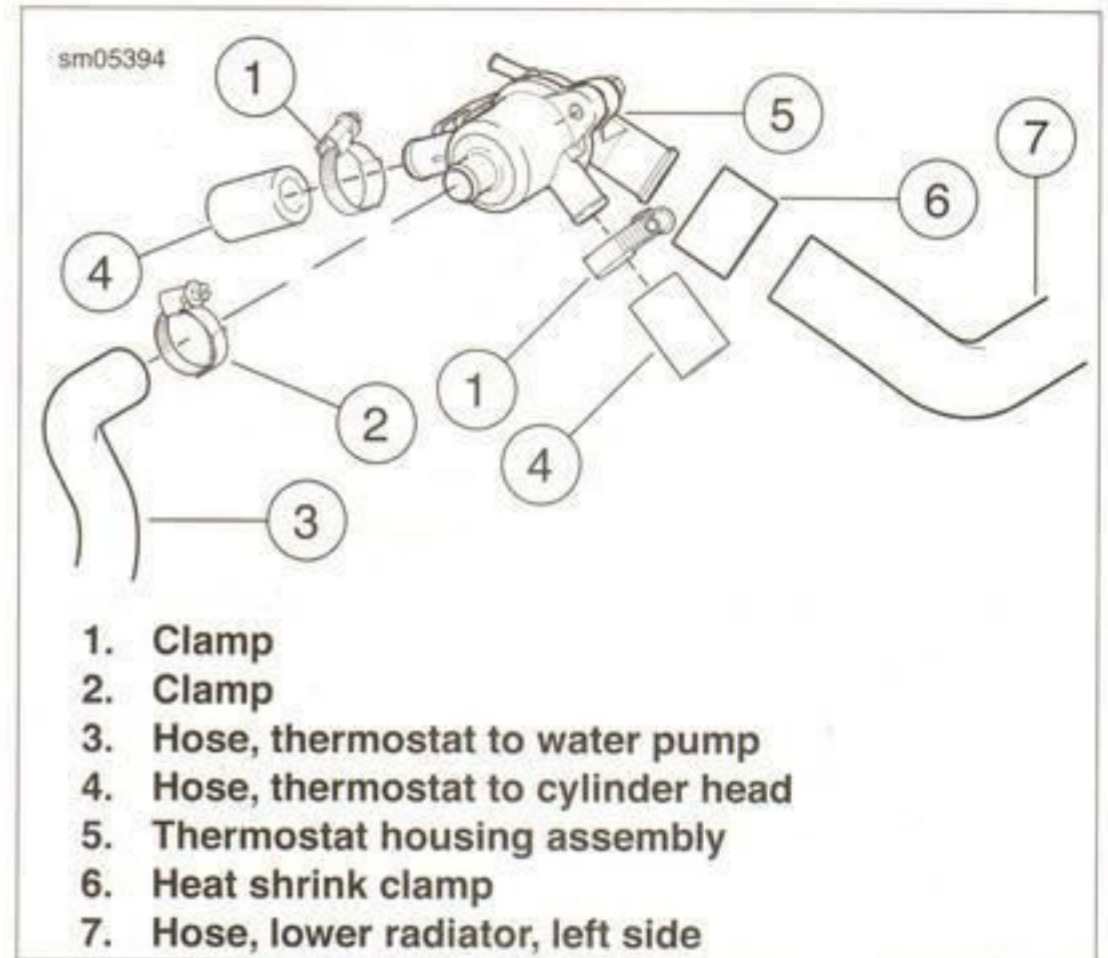

Figure 5-11. Thermostat Housing Assembly
7. See Figure 5-11. Loosen clamps (1) on cylinder to thermostat hoses (4).
8. Loosen clamp (2) on thermostat to pump hose (3) and remove hose from thermostat housing assembly (5).
11. Disconnect lower radiator hose (7) from left side radiator.
- *See Figure 5-11. If replacing thermostat housing assembly, be sure to install lower radiator hose (7) to housing using **new** heat shrink clamp (6). Orient hose in the same manner as it was from the factory for proper fitment.*
2. Install thermostat housing assembly with hose (7) attached into position on motorcycle. Be sure that hose orientation is exactly as it was mounted from the factory.
3. See Figure 5-11. Use a small amount of engine coolant and lubricate open hose ends and ports of thermostat housing assembly. Insert outlets of thermostat housing (5) into thermostat to cylinder head hoses (4).